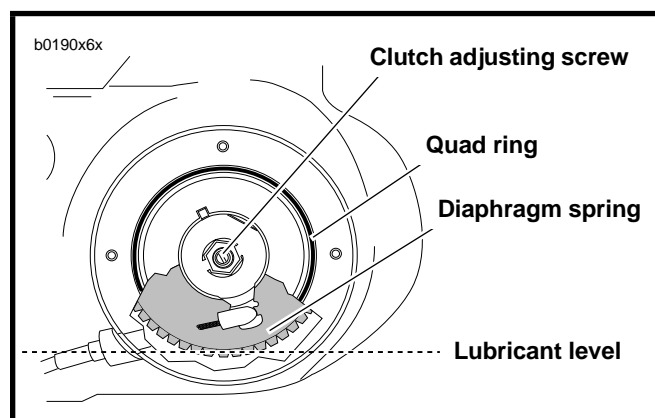

Figure 1-16. Lubricant Level
6. Add SPORT-TRANS FLUID (Part No. 98854-96 quart size; Part No. 98855-96 gallon size) as required until lubricant is even with bottom of clutch diaphragm spring. See Figure 1-16.